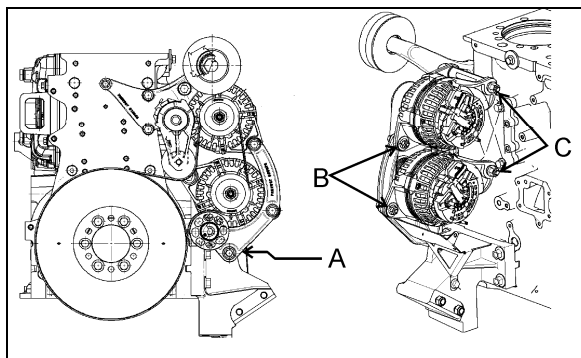

FIGURE 20: ALTERNATOR MOUNTING - TIGHTENING SEQUENCE
6. In order to assure installation, it is important to tighten the alternator mounting bolts in the following order (fig.20).
9. In order to assure proper installation, it is important to tighten the alternator mounting bolts in the following order (fig.20).